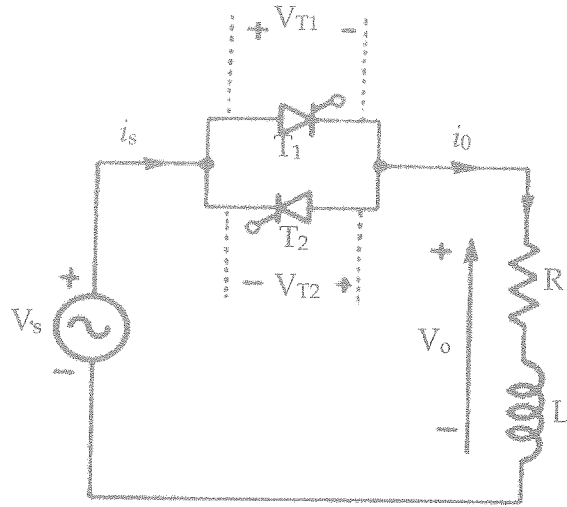

Figure Q4a: Single-phase controlled AC voltage controller
- iii) A Single-phase controlled AC voltage controller with an inductive (RL) load is shown in Figure Q4a. Plot the supply voltage V_s , output current i_o and output voltage V_o in the same time scale. Assume $\alpha = 30^\circ$.